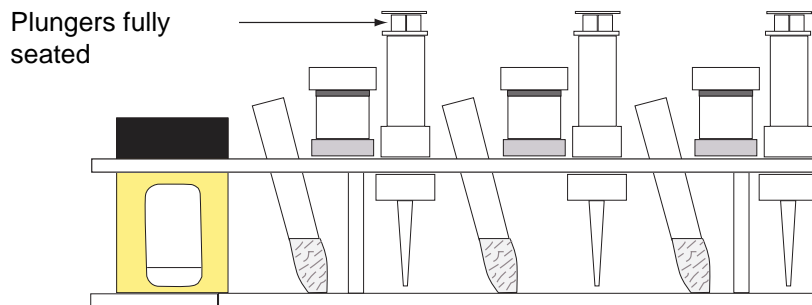

Figure 4-3 Centrifuge tubes fully seated
5. Place a syringing pipette into the rack adjacent to each specimen vial. Make sure the plunger of each syringe is fully seated. The BD PrepMate Automated Accessory will not operate if a plunger is too high. *Figure 4-3* illustrates this point.